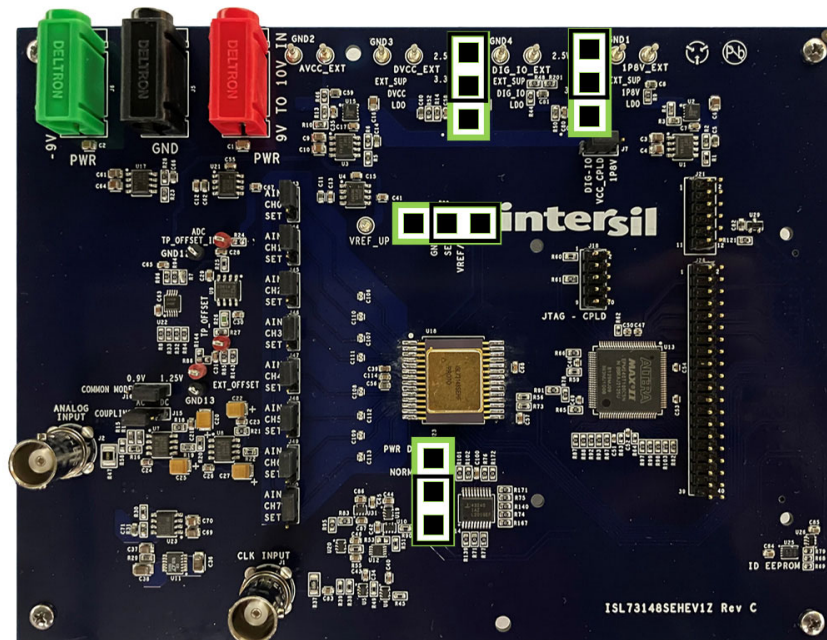

Figure 2. ISL73148SEHEV1Z Evaluation Board Jumper Location
Figure 2 shows the location and position of the jumpers on the ISL73148SEHEV1Z board. The default positions of the jumpers select the use of the on-board LDOs to drive the various power supply domains.
3. Make sure the jumpers on the ADC evaluation board are in place as shown in Figure 2.